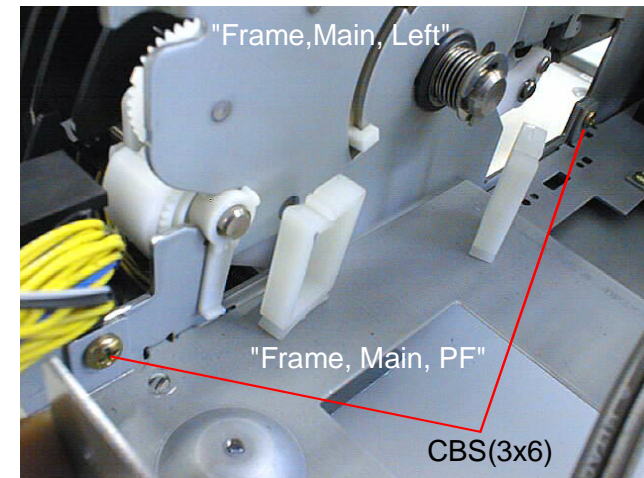

Figure 4-51. Frame, Main, PF Removal
4. Remove 2 CBS(3x6) screws securing "Frame, Main, PF" to "Frame, Middle, Left", and remove "Frame, Main, PF". (Refer to Figure4-51)